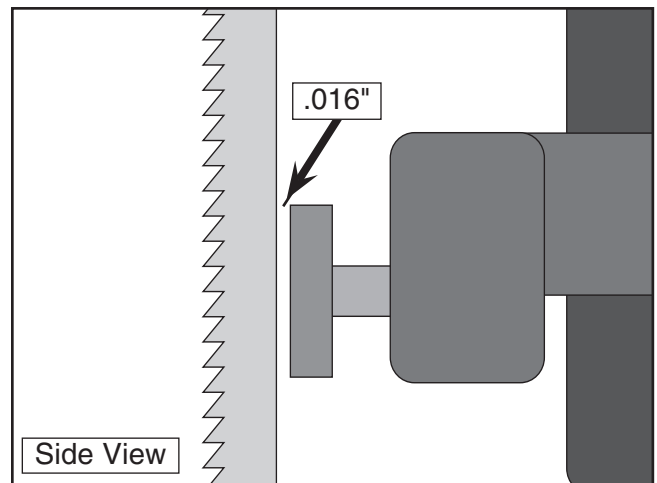

Figure 20. Blade should be aligned approximately .016" away from the bearing edge.
8. Place the feeler gauge between the support bearing and the blade, and use the upper knurled knob to position the bearing .016" away from the back of the blade as illustrated in **Figure 20**.